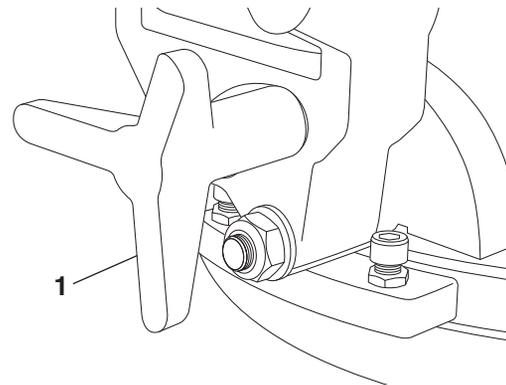
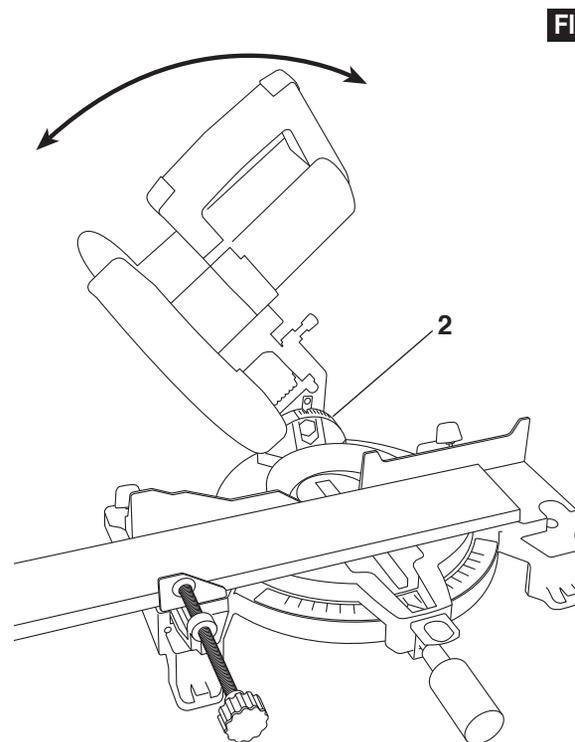

FIG. 32
FIG. 33
1. Loosen the bevel lock knob **1** (Figure 32). Rotate the blade to the desired bevel angle using the bevel index **2**. Tighten bevel lock knob (Figure 33).